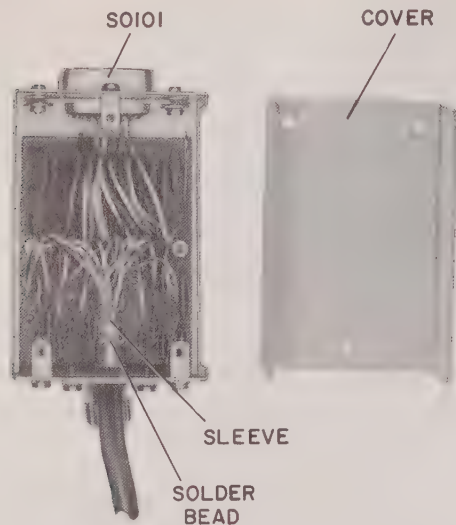
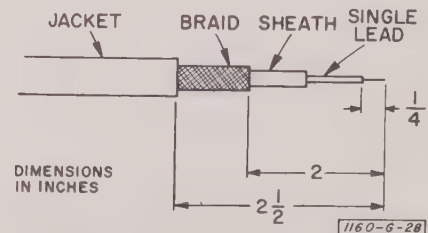

Figure DD-4. Interior view of Filter Plug FP-4 showing remote wiring connection.
Figure DD-5. Remote-programming control cable preparation details.
The Filter Plug, FP-4, must be wired to the external programmer. For synthesizers purchased initially with programmable digits, a 50-foot roll of special 12-wire cable is furnished. For conversions or expansions this cable is recommended as an accessory available; the catalog number is 1160-9650 (50-foot lengths). See Figure DD-4 for a completed FP-4 assembly and Figure DD-5 for cable preparation details.
q. Dress the leads as shown in Figure DD-4. The planned slack in the leads provides service loops that permit easy alteration of the wiring at a later time if desired.
e. Strip 2 1/2 inches of the grey vinyl jacket from the end of the cable, taking care not to sever the braid underneath it (see Figure DD-5).
CONTROL-CABLE CONNECTION (See Figures DD-4 and DD-22)